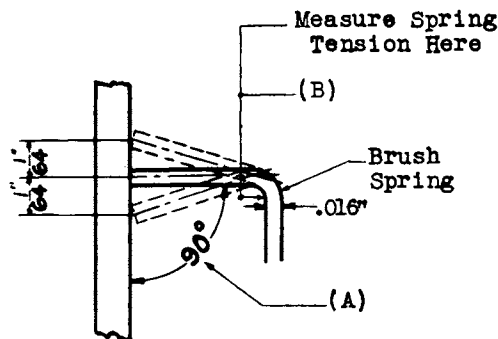

Fig. 6
- 2.08 Angle of Contact - Fig. 6 (A) - The contact portion of the lip of the commutator brush spring shall meet the face of the commutator strip within 1/64" of the point at which the horizontal portion or lip of the brush spring would be perpendicular to the face of the commutator strip. Gauge by eye.
- 2.10 Contact Pressure - Fig. 6 (B) - The contact pressure of each individual brush spring measured just below the horizontal portion or lip with the brush rod in the position corresponding to the reference terminal of the bank shall be: